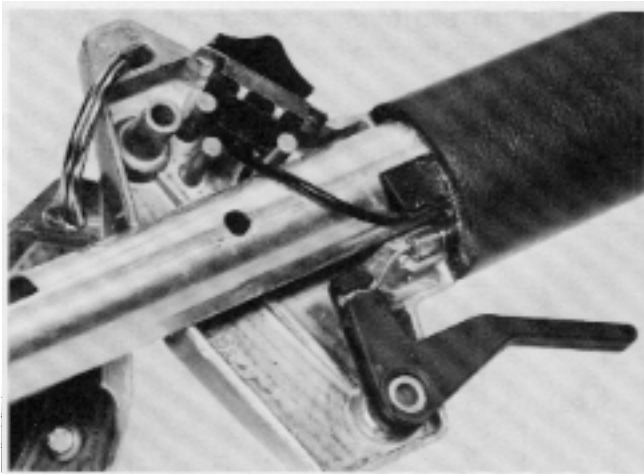

Figure 108
1. Remove the two screws and locknuts securing the throttle control case halves. See Figure 108.
1. Mount the right hand (as viewed from the rear of the trimmer) control half on the alignment hole just in front of the grip. See Figure 108.
3. Mount the switch in the right control half as shown above in Figure 108.
4. Place the throttle trigger over the lower mounting boss and insert the throttle cable into the trigger. See Figure 108 above.